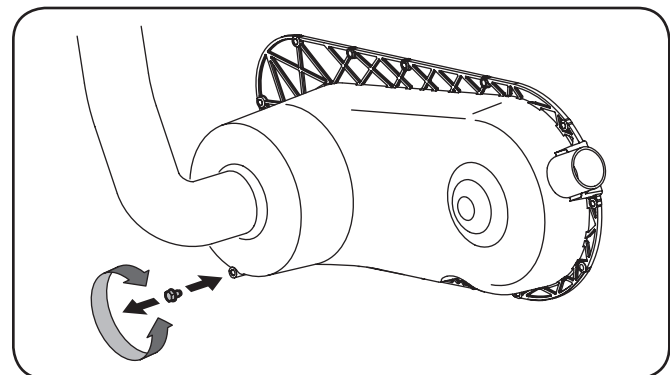

Figure 6-10
1. Remove CVT cover drain plug. See Fig. 6-10.